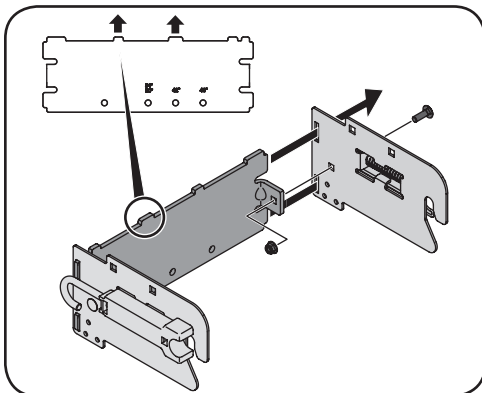

Figure 1-1
1. Insert the ends of the rear support bracket through the narrow slots at the rear of each side support bracket. See Figure 1-1.
2. Secure folded tabs on rear support bracket to side support brackets with a carriage screw (ref. #7) and nylon lock nut (ref. #9). See Figure 1-1.
NOTE: The latches on the side support brackets must be positioned with the opening facing down on the outside of the bracket and the tabs on the rear support bracket must be facing up. See inset in Figure 1-1.